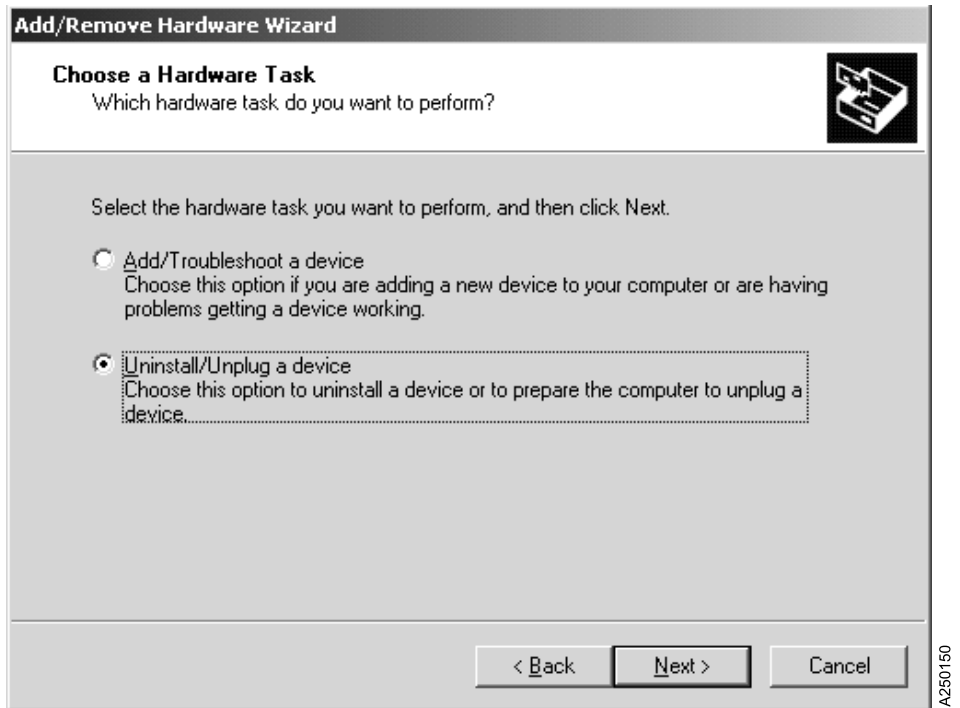

Figure 38. Control Panel Menu
3. An **Add/Remove Hardware Wizard** window opens. Select the **Uninstall/Unplug a device** option, then click **Next >**. See Figure 38.